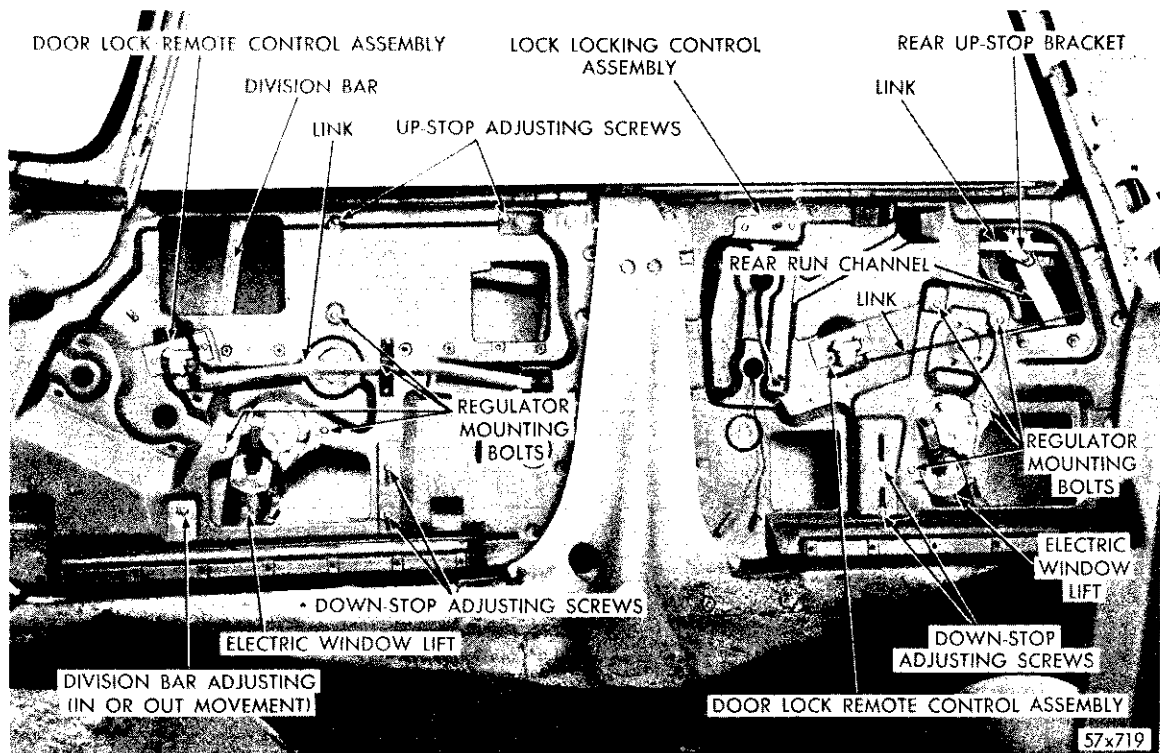

Fig. 45—Front and Rear Door Control Assembly
19. REMOVAL AND INSTALLATION OF DOOR LATCH AND REMOTE CONTROL (Fig. 45)